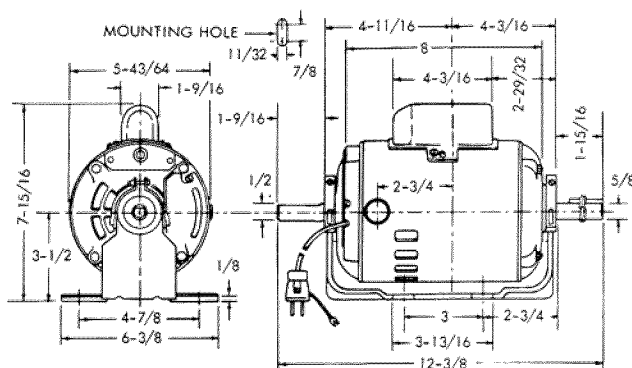

Figure 1
3. The motor should be installed in a location as cool and dry as possible and should be protected against excessive deposits of dust and dirt. (See figure 1 for mounting dimensions.) The motor must not be confined in a small space that will restrict the flow of cooling air over internal electrical windings.